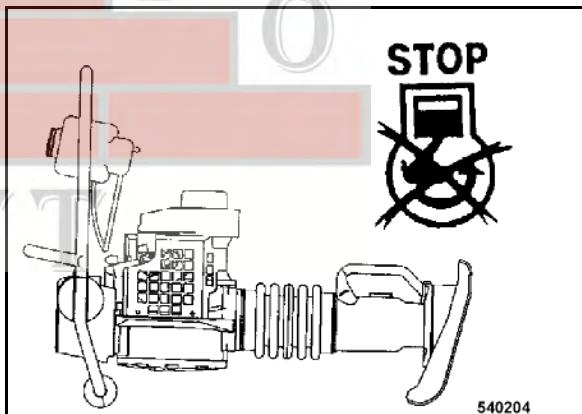

Fig. 28 □
- Lay down the tamper (Fig. 28) to transport it on the rollers.